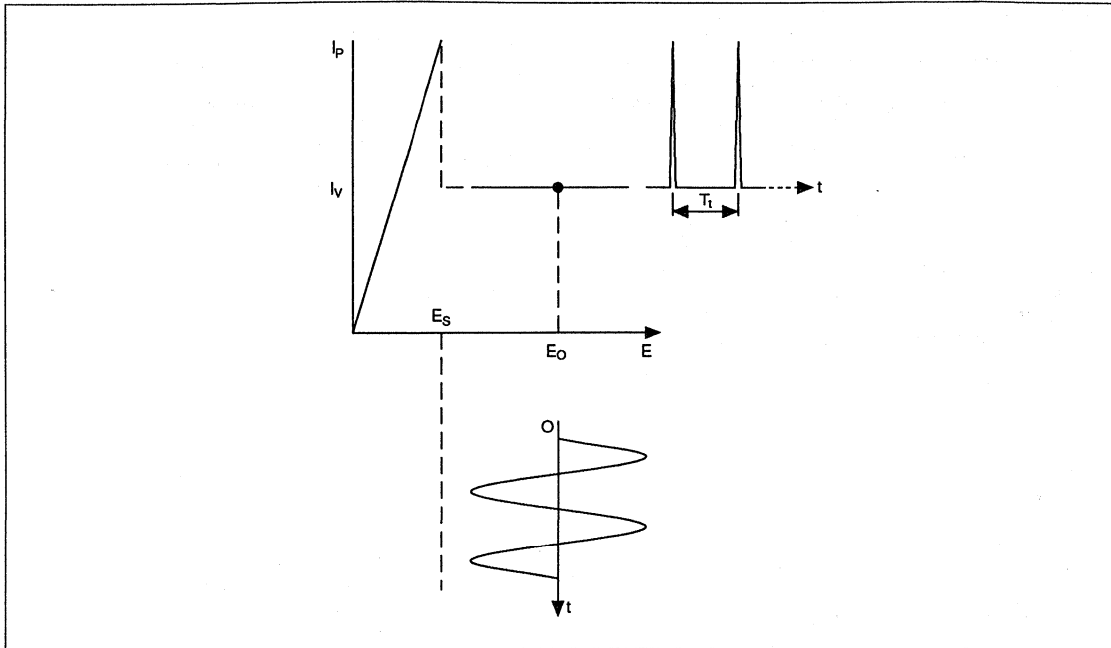

Figure 4. Current and field waveforms for transit time mode
- (1) Total electric field across the device at any time is above the saturation field—(Fig. 4.) (overleaf)
- (2) Current waveforms consist of narrow spikes indicating high harmonic content and low efficiency at fundamental frequency.
- (3) RF field across the device is small indicating low impedance.
- (4) Transit time frequency is a strong function of operating voltage and temperature.